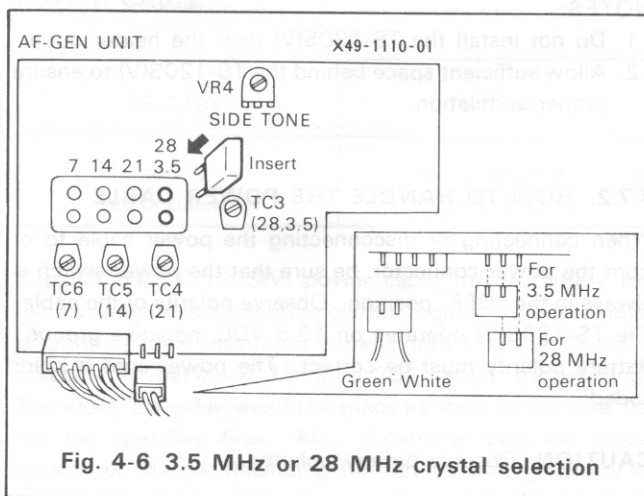

Fig. 4-6 3.5 MHz or 28 MHz crystal selection
#### 4.5 FIXED CHANNEL OPERATION (Fig. 4-6)
The TS-120S(V) has a built-in crystal-controlled oscillator for fixed-channel operation. This feature is most useful for commonly used frequencies, nets, or any situation where crystal-controlled operation is required. To use the fixed-frequency oscillator, turn the FIX switch to the FIX position. The TS-120S(V) accepts a maximum of four crystals one each for the 7, 14, 21 and 28 MHz bands (the 28 MHz band includes 28.0, 28.5, 29.0 and 29.5 MHz, so it is possible to operate in 28.1, 28.6, 29.1 or 29.6 MHz with a 28.6 MHz crystal). For operation in the 3.5 MHz band, change the position of the connector from the 28 MHz to the 3.5 MHz position as shown in Fig. 4-6.